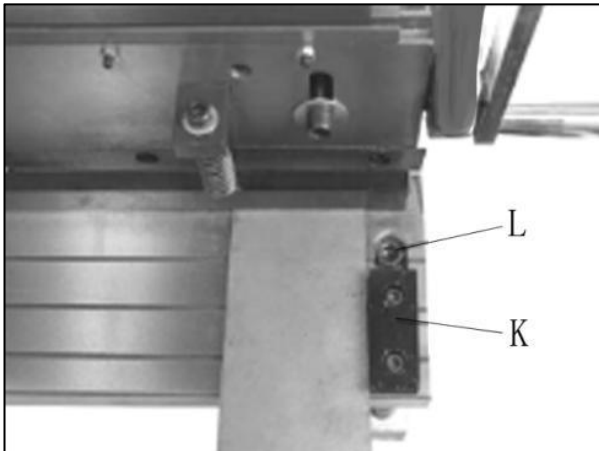

Figure 7
2. Place workpiece against guide block at right edge of table (K, Figure 7).
2. If the shear does not cut the paper, loosen screw (L, Figure 7) at each end of table, with 6mm hex key.